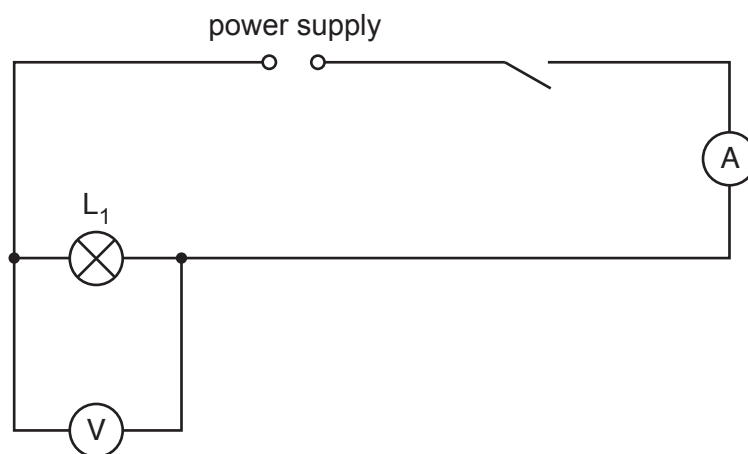

Fig. 2.1
- (ii) Three identical lamps in suitable holders, labelled 'L₁', 'L₂' and 'L₃'. Any low voltage lamps will suffice, provided that they glow when connected as shown in Fig. 2.1.
- (vi) Sufficient connecting leads to construct the circuit shown in Fig. 2.1, with two additional leads. See note 3.
1. The components are to be connected by the supervisor as shown in Fig. 2.1.
Set up the circuit so that it is arranged as shown in Fig. 2.1.